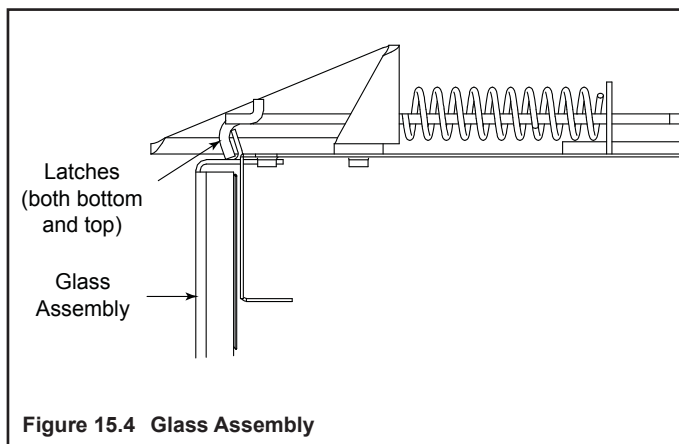

Figure 15.4 Glass Assembly
- Pull the four (30/33/36 in. appliances) or seven (42 in. appliance) glass assembly latches out of the groove on the glass frame. Refer to Figure 15.4.
- Replace glass latches. See Figure 15.4.